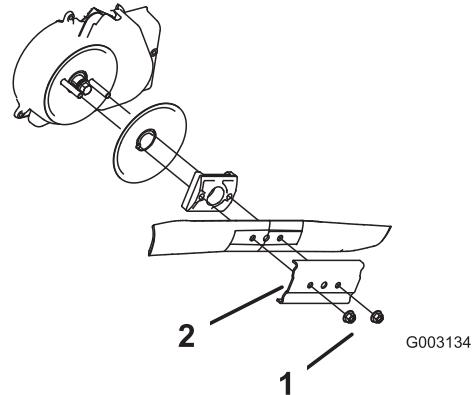

Figure 41
4. Remove the blade (Figure 41).
5. Install the new blade (Figure 41).
3. Remove the 2 blade nuts and the stiffener (Figure 41).